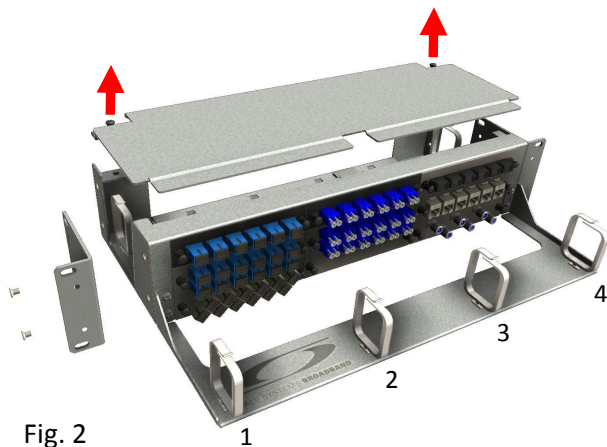

Fig. 2
2. Snap the plastic routing rings into each of the four positions in the Cable Management Bracket by pressing down (Fig. 2).
3. To remove the top panel, pull up on the two plastic pins located in the rear of the shelf (Fig. 2).